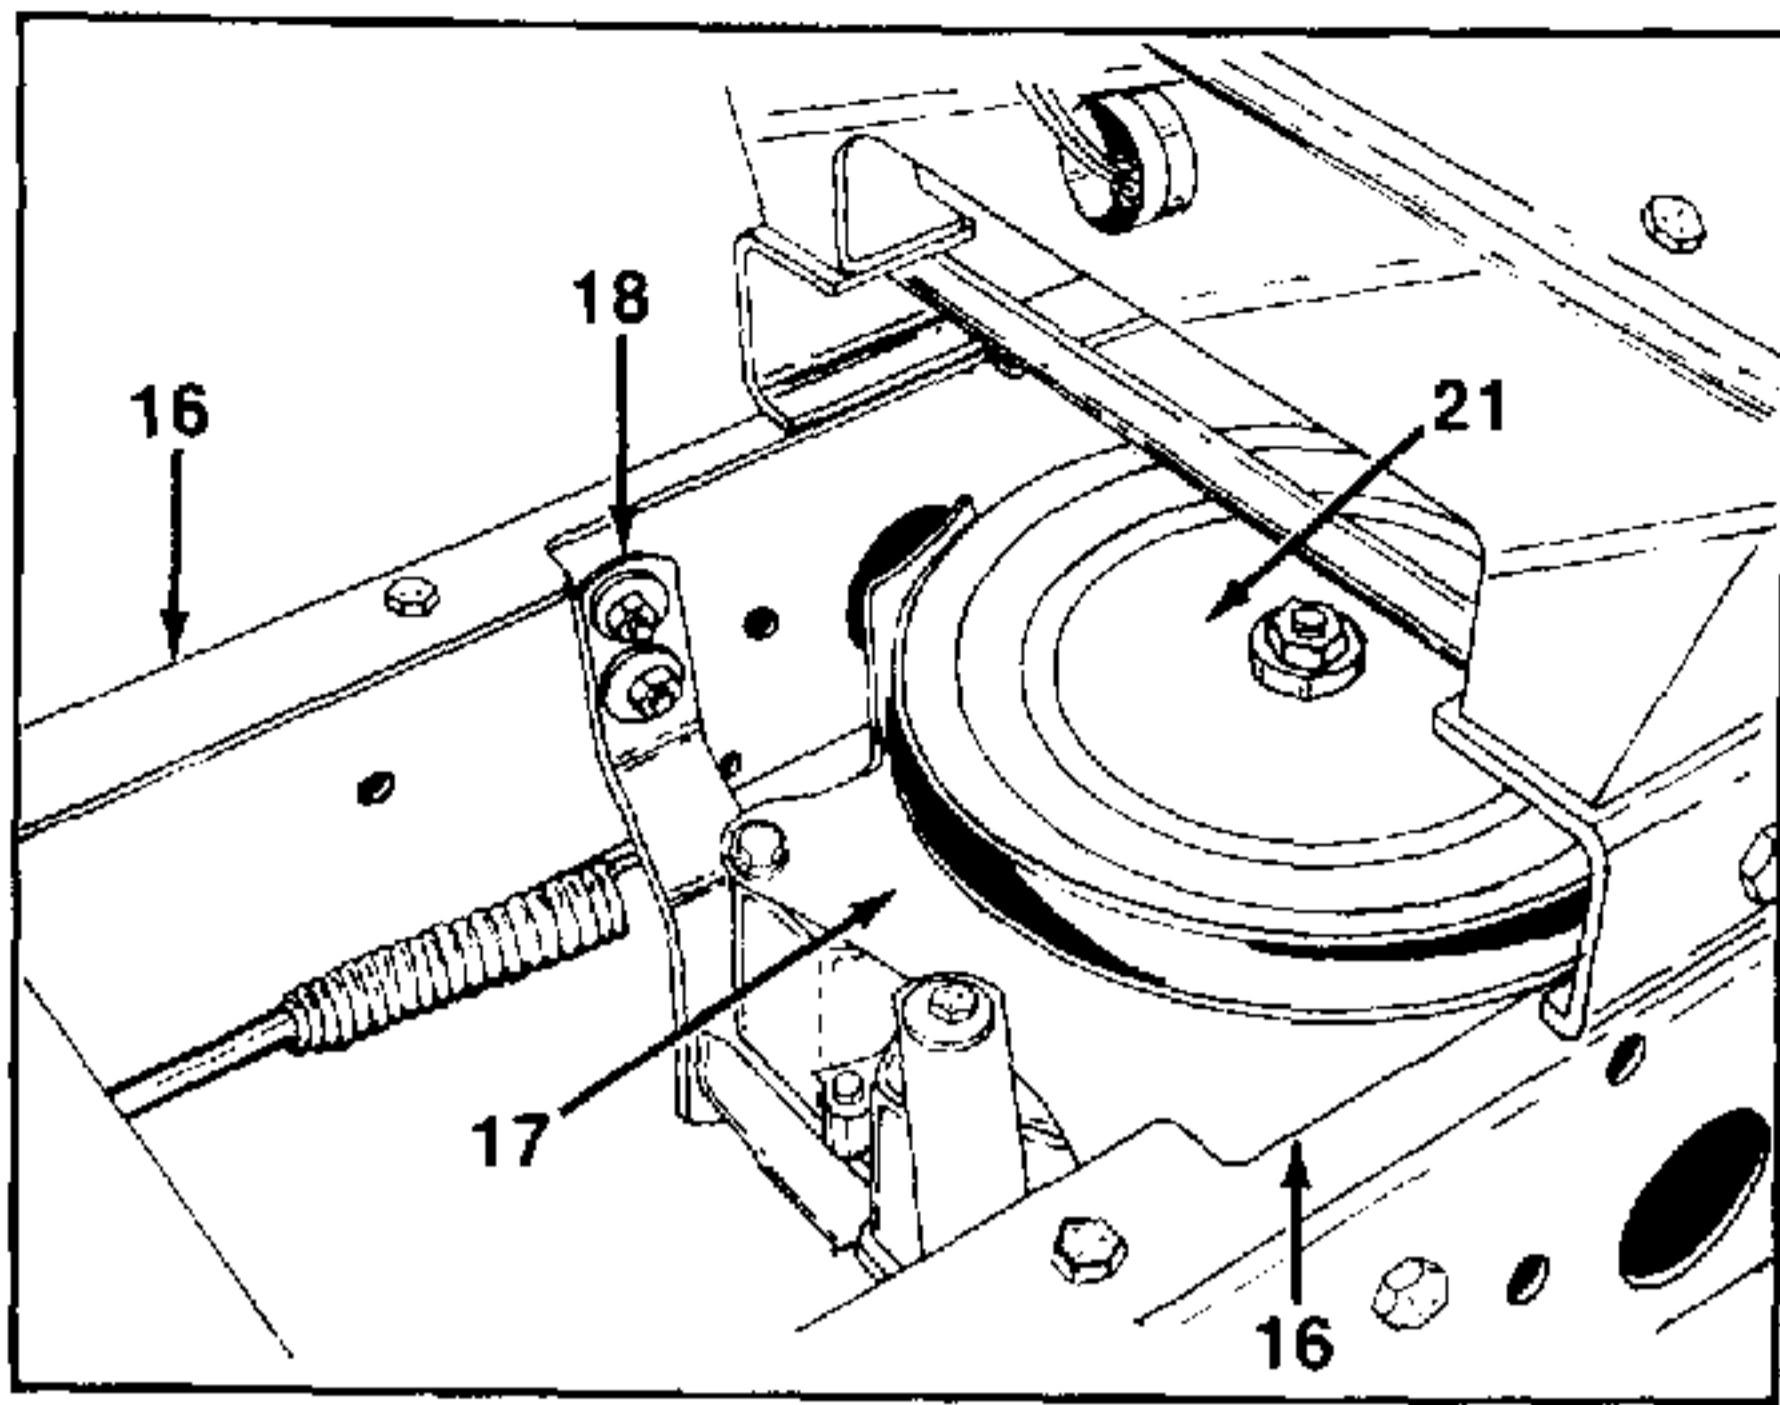

FIGURE 7.
11. Remove the two bolts and washers securing the belt keeper (Ref. 17) to the top front of the transaxle housing. Depress clutch and brake pedal, and engage parking brake handle. See figures 7 and 8.
13. Remove the fixed idler pulley (Ref. 22) from under tractor, this will allow you to remove the belt (Ref. 16) from the transaxle pulley (Ref. 21). See figures 7, 8 and 9.
14. Remove the transaxle support straps (Ref. 18 and Ref. 19). See figures 7 and 8.